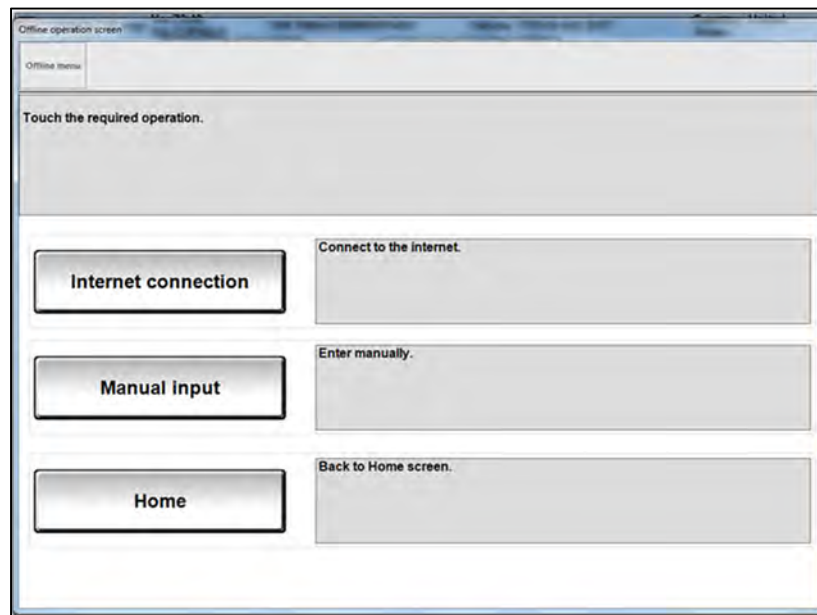

Figure 16
- If the CONSULT PC is not connected to the Internet, the screen in Figure 16 will display.